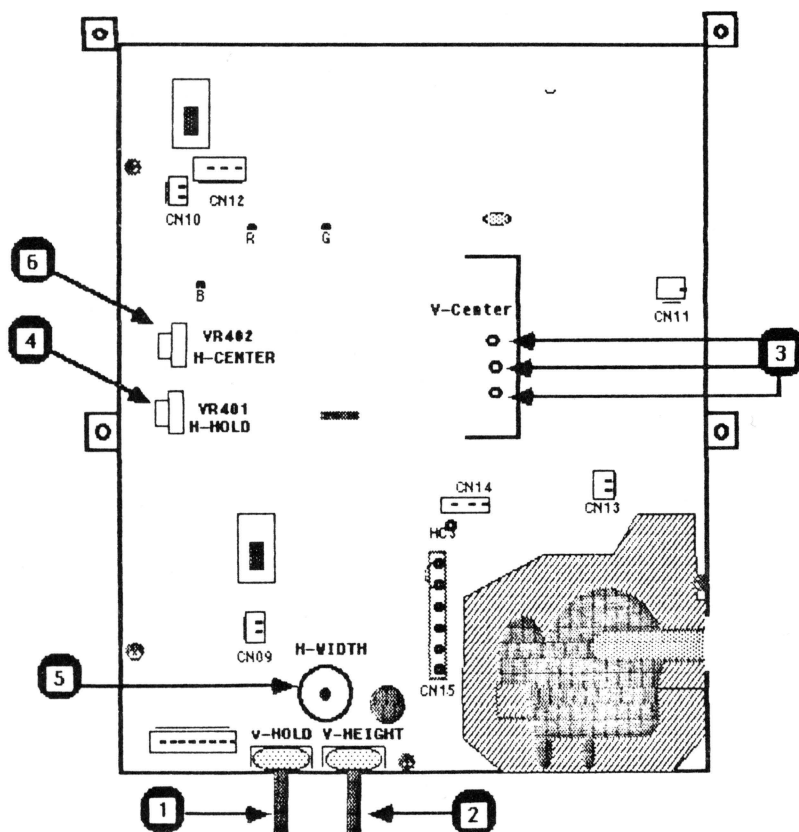

FIGURE 3
1. Vertical Hold: Set the vertical hold control VR301 (Figure 3, #1) to the mechanical center by turning it all the way to the left, then to the right, then back to the center of the range between left and right of its rotation. This should lock the picture on the screen and prevent any rolling.
2. Vertical Height: If the vertical height of the image is incorrect, then adjust V-HEIGHT VR302 (Figure 3, #2) until the picture is about 1/4 inch away from the top and bottom edges of the screen.
3. Vertical Center: If the vertical position of the entire image is off, carefully connect the H-C4 connector (Figure 3, #3) to the best position pin to correct this problem. (BE CAREFUL, IT IS CLOSE TO THE CRT NECK)!
1. Horizontal Hold: If the picture on the tube is not locked and is tearing, adjust H-HOLD R402 (Figure 3, #4).
2. Horizontal Width: The image should be about 1/4 inch away from each side of the screen. If the width of the image looks too narrow or too wide, adjust the H-WIDTH L406 (Figure 3, #5) until you have the desired width.
3. Horizontal Center: If the image is too far to one side of the screen, adjust H-CENTER VR402 (Figure 3, #6) until the image is centered.